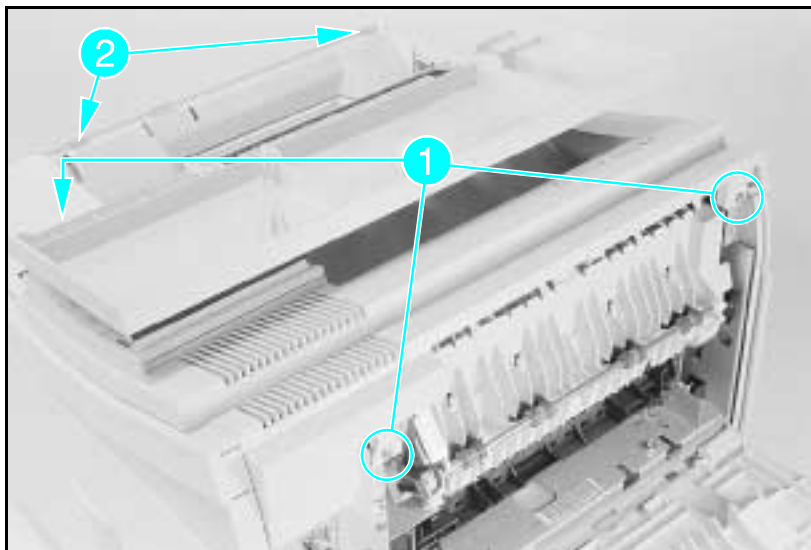

Figure 6-3 **Front Top Cover Screws and Latches**
- 4 Remove the (3) screws shown in Figure 6-3, callout 1.
- 5 Release the (2) latch points with a flat screwdriver while lifting the Top Cover (see callout 2.)